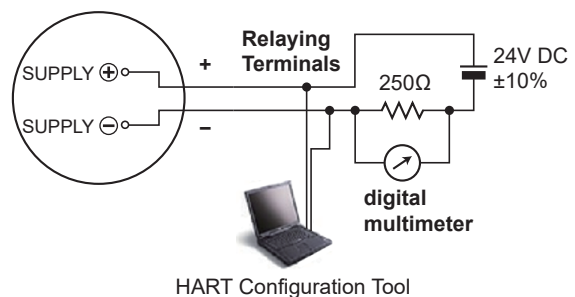

Figure 7.1 Connection Method
1. Connect the instruments as shown in Figure 7.1, and warm up for three minutes more.
4. When the load resistance is 250Ω, the digital multimeter indicates 5V. When a known load resistance ($R(\Omega)$) is used, make sure that $R(\Omega) \times 0.02$ (A). Check that the output value is in the rated value (± 0.016 mA).